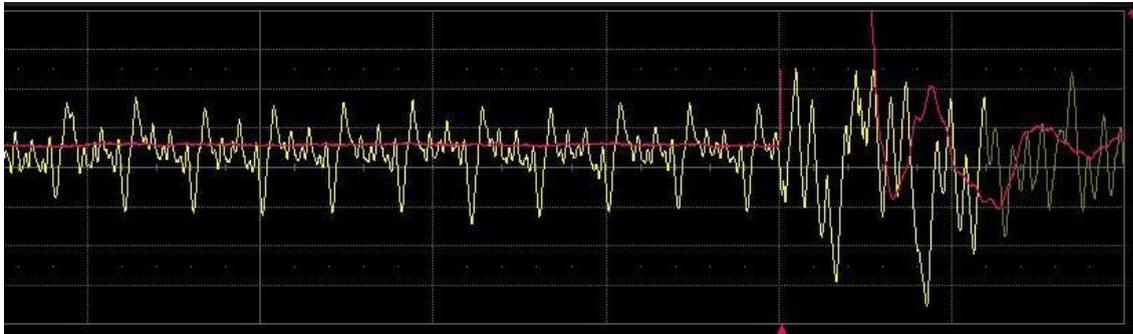

Figure 9: EM waveform with Trigger signal on Oscilloscope
12. The waveforms of EM signal and Trigger signal can be observed as shown in Figure 9. Record the EM signal waveforms for a total of 450ns before the Trigger signal for SCA evaluation.